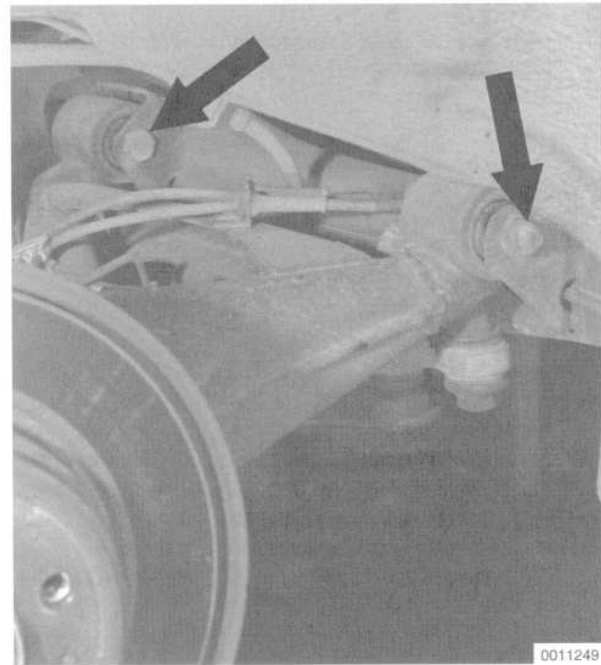

Fig. 15. Trailing arm through-bolts (arrows).
10. Remove the two trailing arm through-bolts and nuts and remove the trailing arm from the car. See Fig. 15.